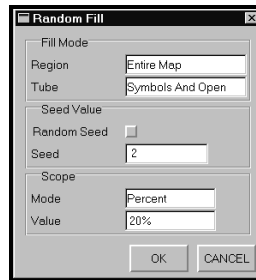

Figure 3-101. Random Seed Example
- Seed number refers to a specific random fill pattern done with Random Seed turned off. Refer to Figure 3-101 as an example. A fill of 20% of the entire map for open tubes and tubes with symbols. Random Seed is turned off and the Seed number is 2.